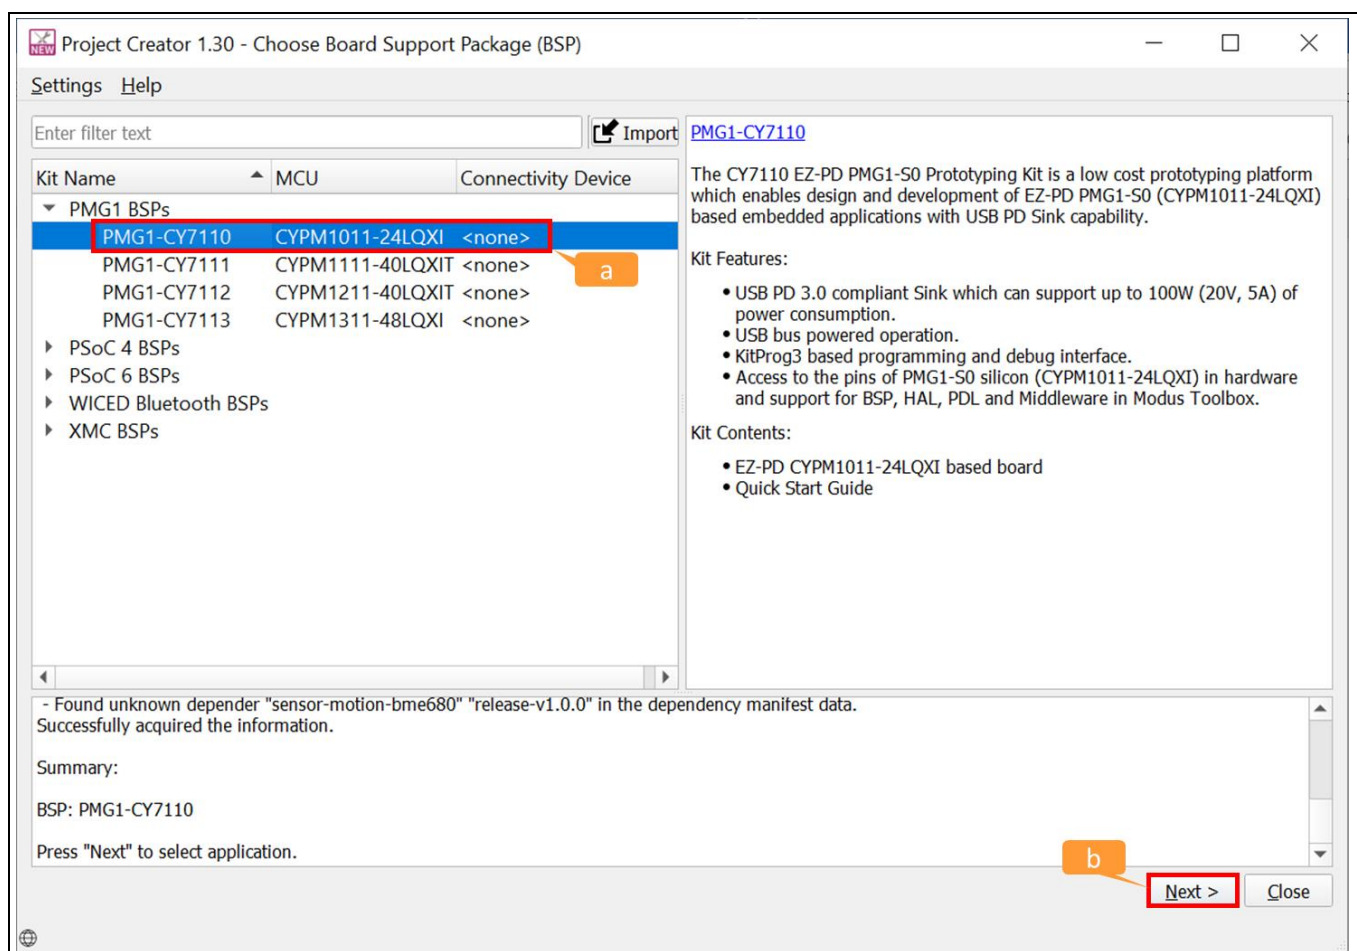

Figure 10 Choose the target hardware
- In the **Choose Board Support Package (BSP)** dialog, choose the **Kit Name** that you have. As you are creating for PMG1-S0, choose PMG1-CY7110. See Figure 10 for help with this step.